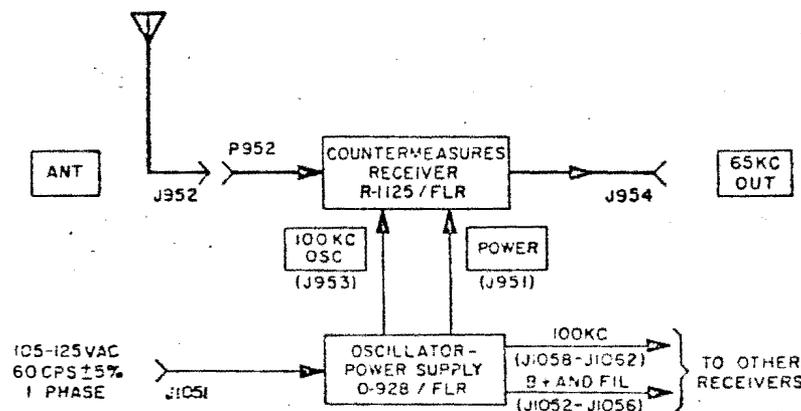

Figure 4-1. Countermeasures Receiver R-1125/FLR and
b. BASIC FUNCTIONAL DIAGRAM. - Figure 4-1 is a basic functional diagram of the R-1125/FLR and O-928/FLR. It shows the functional relationship between the sections. Only one R-1125/FLR is shown, but up to five can be operated simultaneously from one O-928/FLR. Individual cable connectors supply a 100-kc reference signal, and plate and filament voltages to each receiver.